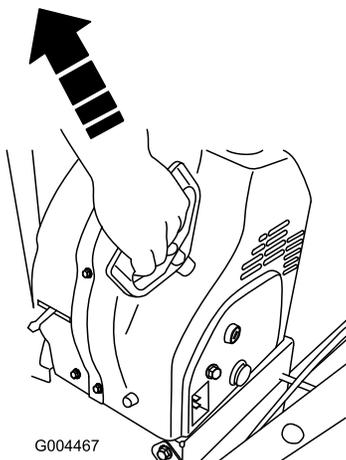
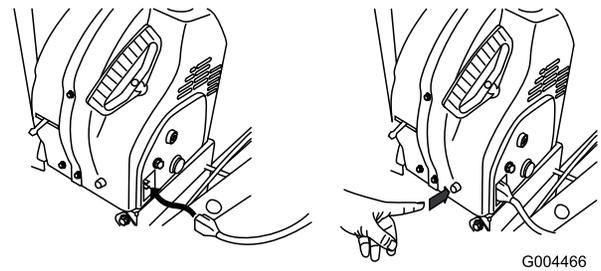

Figure 23
Figure 24
- Start the snowthrower using the recoil starter (Figure 23) or the electric starter (Figure 24).